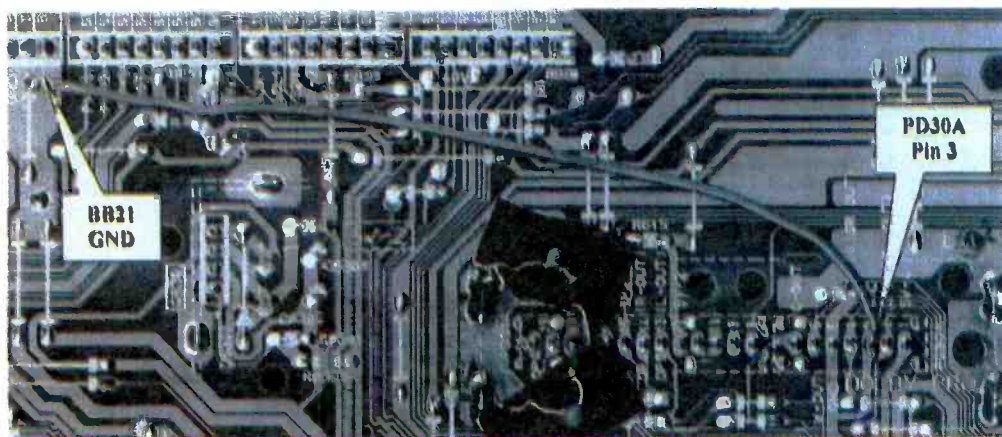

Fig. 3: In addition, add a 140mm jumper wire on the print side of the Dolby Digital module, between pin 3 of PD30A and BB21 GND.
(2) Add a jumper lead of 140mm length between pin 3 of PD30A on the Dolby Digital module and BB21 GND as shown in Fig. 3.